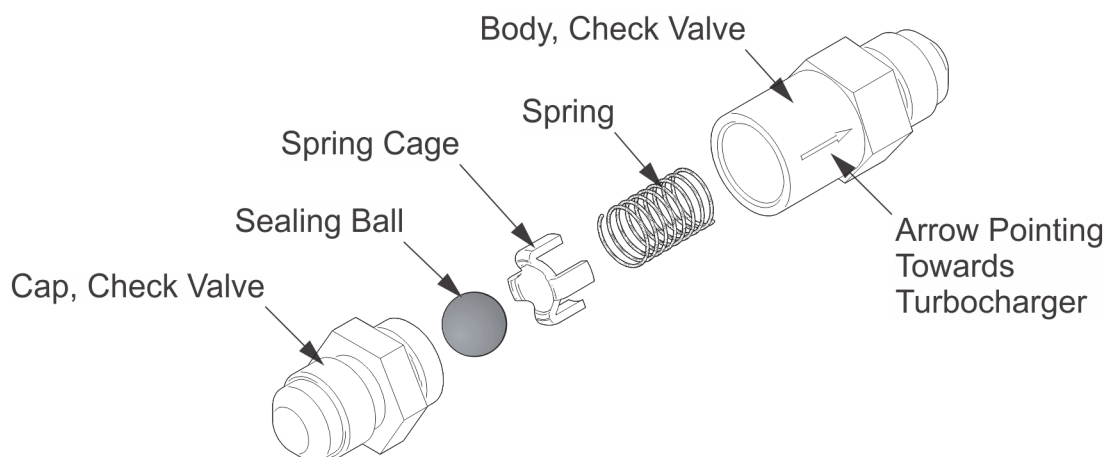

Figure 6-97.2. Check Valve Detail Illustration
3. To disassemble the check valve (see Figure 6-97.2), unscrew the check valve cap from the check valve body. Remove the sealing ball, spring cage, and spring.
8. Assemble the check valve (see Figure 6-97.2, for correct orientation):
Figure 6-97.2 repeated for reference